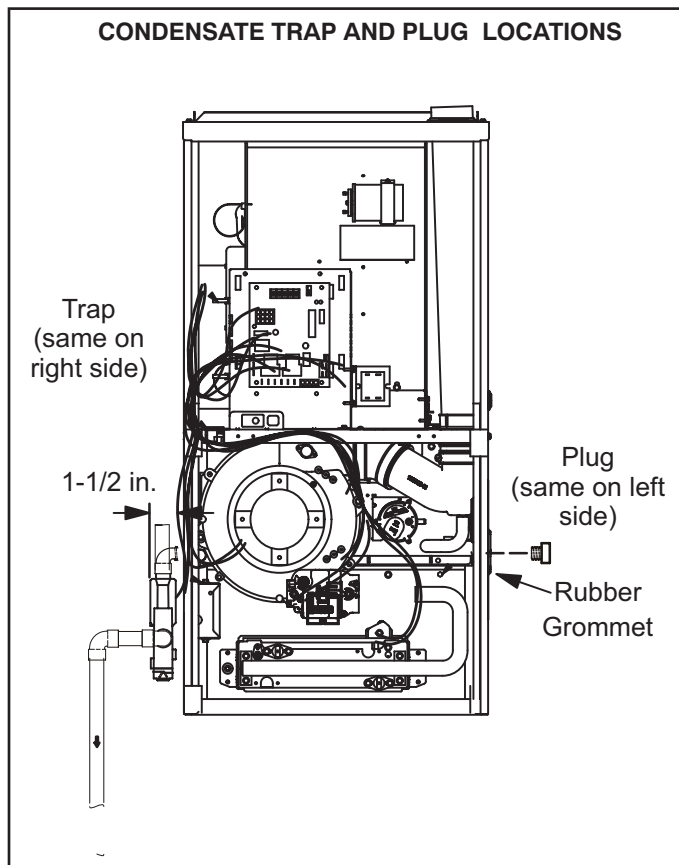
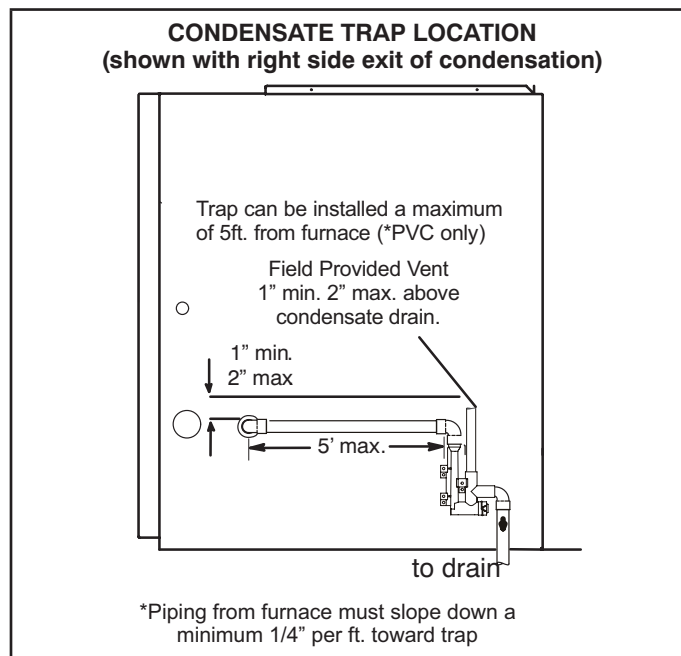

FIGURE 43
FIGURE 45
This unit is designed for either right- or left-side exit of condensate piping. Refer to FIGURE 43 and FIGURE 45 for condensate trap locations.
- 2 - Use a large flat head screw driver or a 1/2" drive socket extension and remove plug (figure 43) from the cold end header box at the appropriate location on the side of the unit. Install provided 3/4 NPT street elbow fitting into cold end header box. Use Teflon tape or appropriate pipe dope.